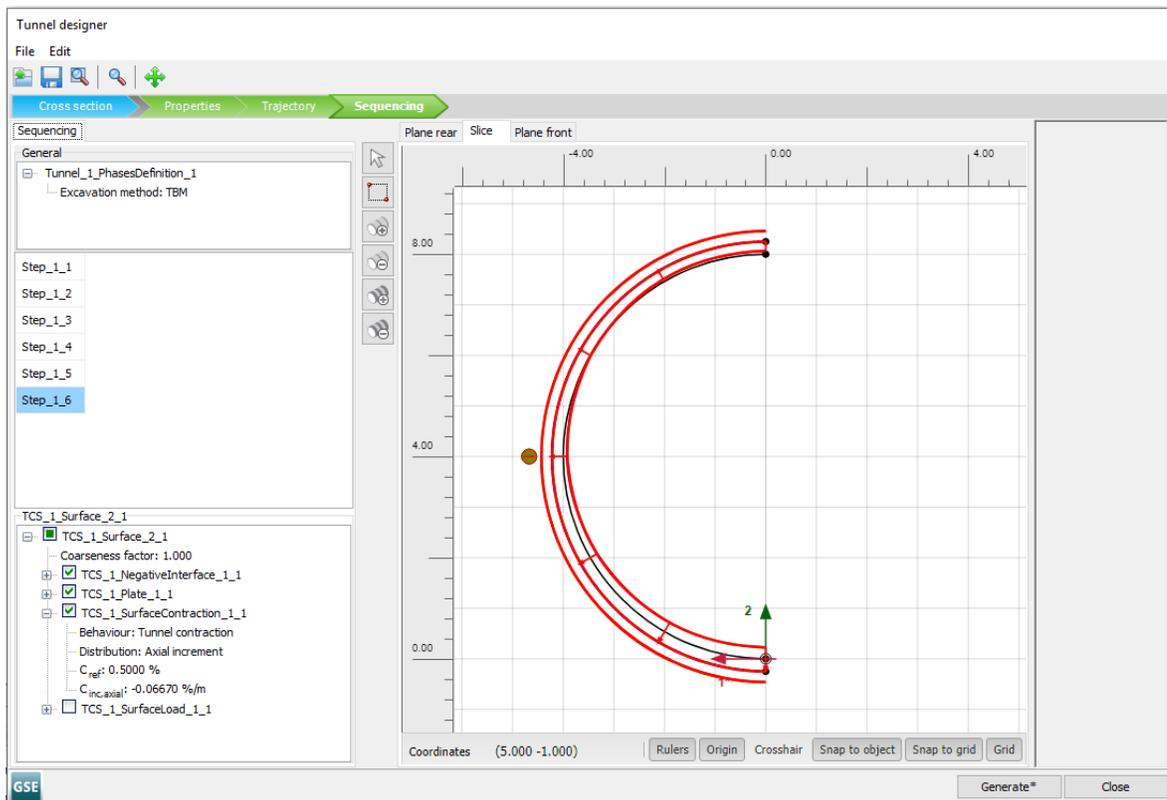

Figure 81: Slice tabsheet in the *Tunnel designer* for Step_1_6
- In the **Selection explorer** select the *Uniform* option with $C_{ref} = 0.5\%$ (Figure 81 (on page 108)).